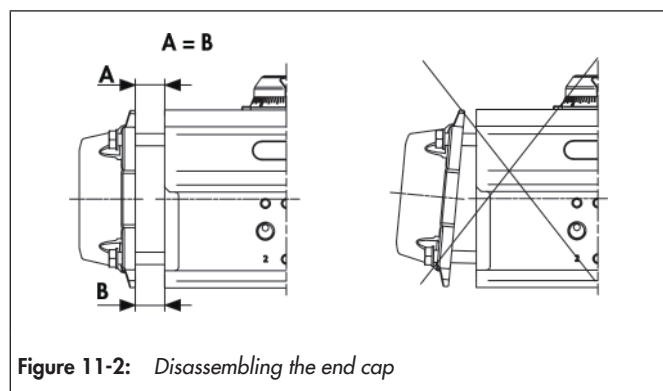

Figure 11-2: Disassembling the end cap
- ⇒ When disassembling the end cap, maintain a constant distance (A = B) between the actuator housing and the housing interface, see Figure 11-2.